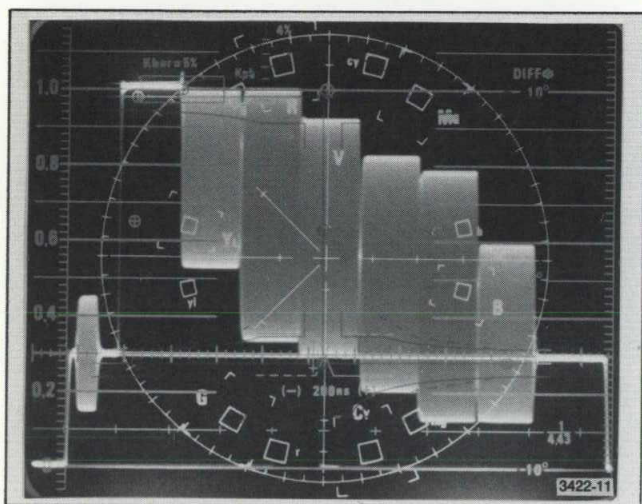

Fig. 3-12. 1H Display.
**Line Rate Display (Figs. 3-12, 3-13, and 3-14)**